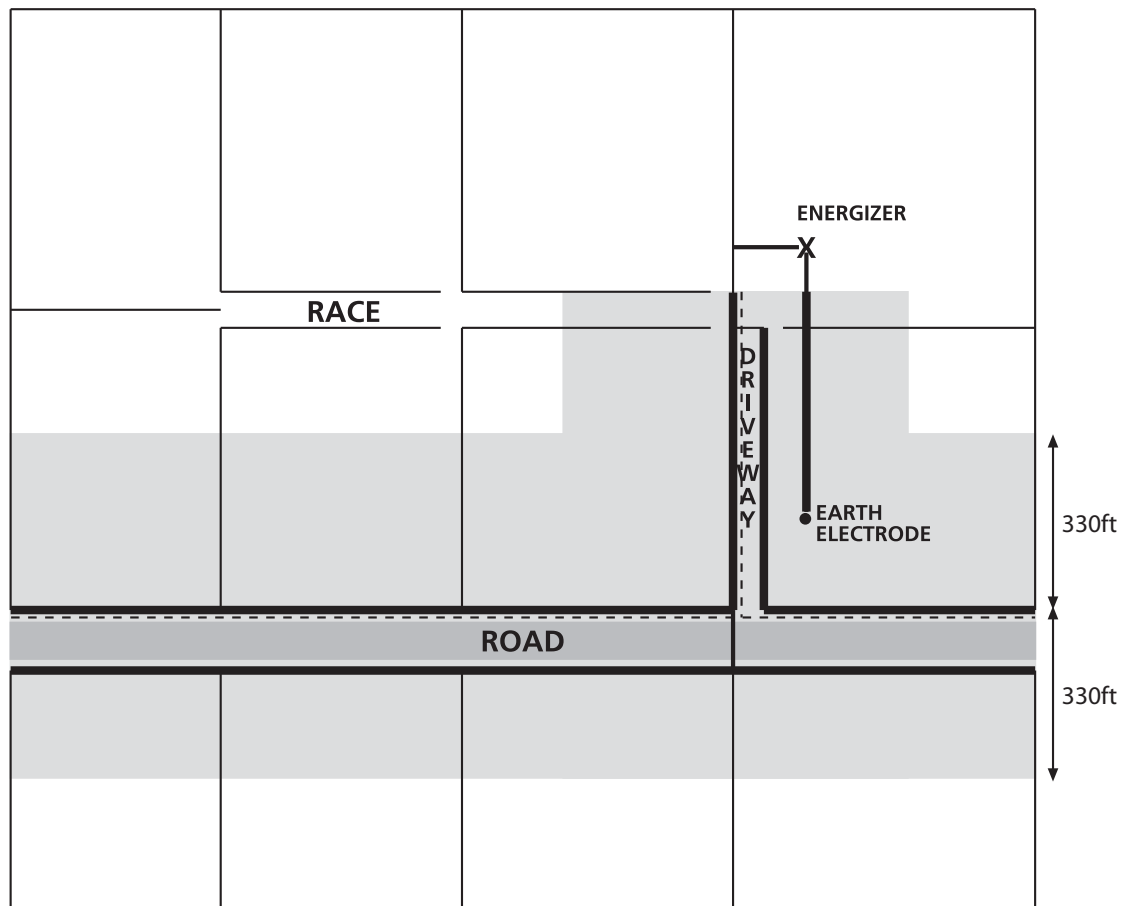

Figure 8.3
3. Draw on the plan a shaded stripe 640ft wide centered on each of the communication cables or lines as shown in *Figure 8.3*. Electric fence wires within the shaded area are the most likely to cause interference due to their close proximity to the communication cables or lines.
4. Highlight on the plan those fence wires that run parallel to communication cables or lines, and are within 330ft of them as shown in *Figure 8.3*. Those at right angles to cables or lines will not normally cause significant interference and may be ignored.